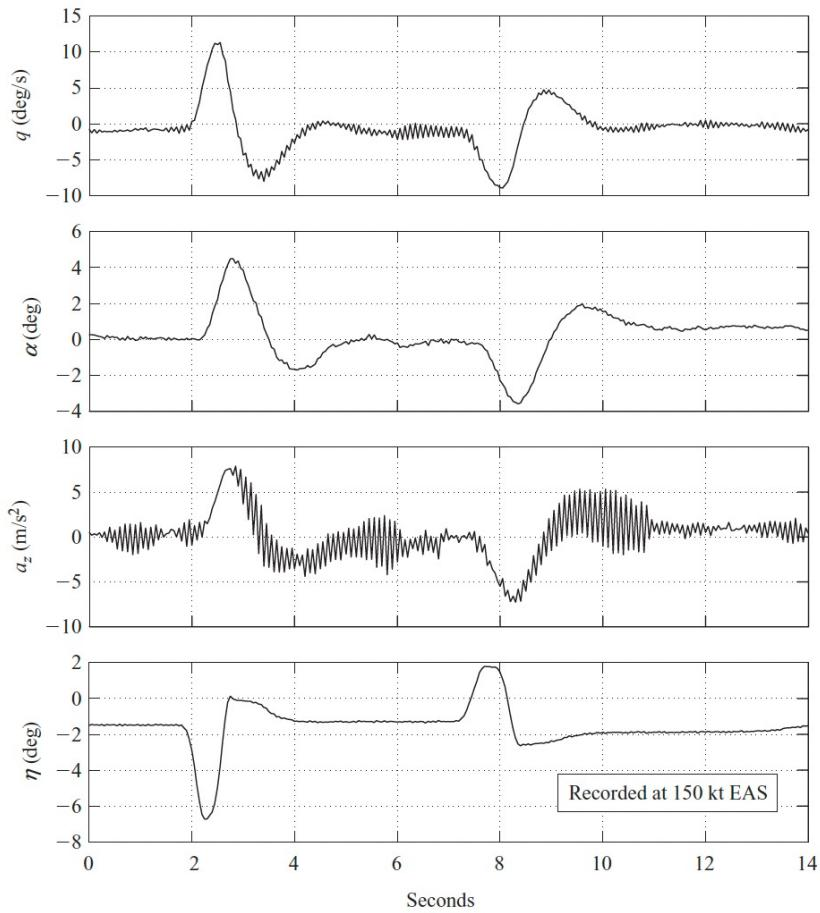

Figure 6.10 Flight recording of the short period pitching oscillation.
- An example of a short period response recorded during a flight test exercise in a Handley Page Jetstream aircraft is shown in Fig. 6.10.